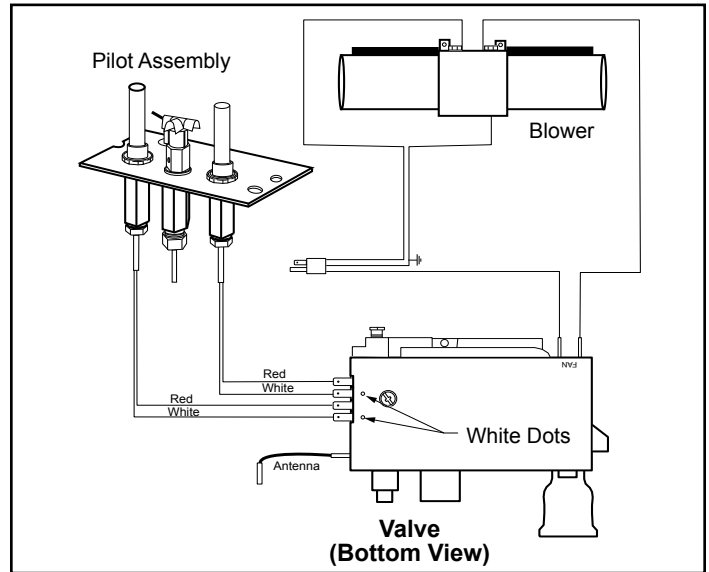

Figure 8 - FK26 is wired to back of Comfort Valve.
**NOTE:** Steps 2 and 3 do not apply when the RF valve is used. After attaching blower assembly to the firebox, run the spliced female leads to the front of the stove and attach to back of Honeywell RF Comfort valve. (Figure 8)